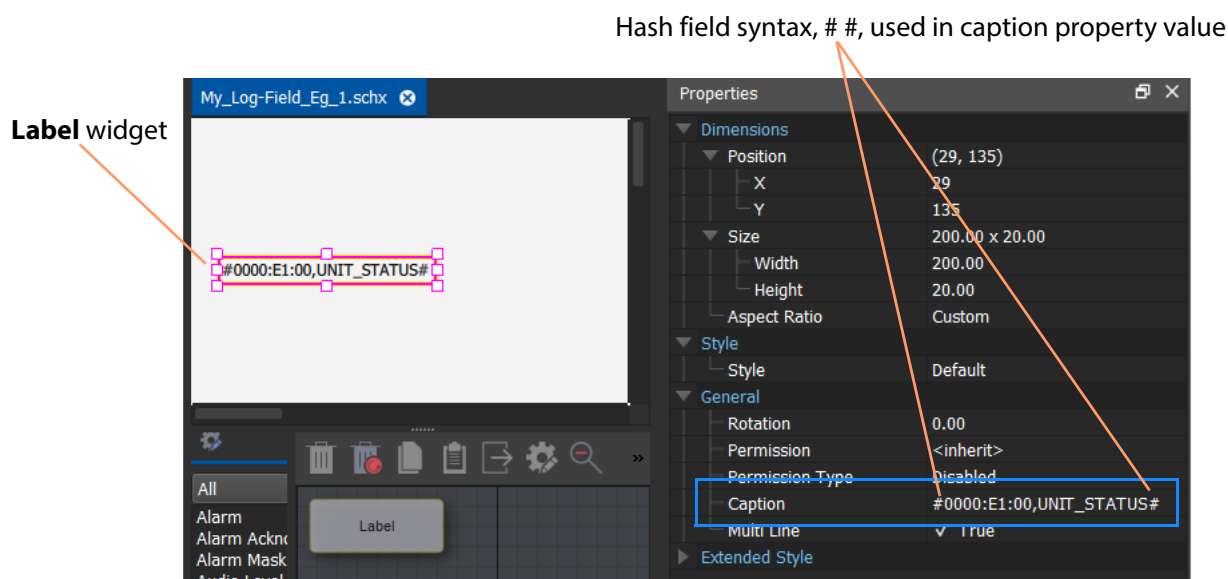

Fig. 8-4: Hash Field Syntax
- 2 Set the 'Caption' property to #0000:E1:00,UNIT_STATUS# , see Figure 8-4.